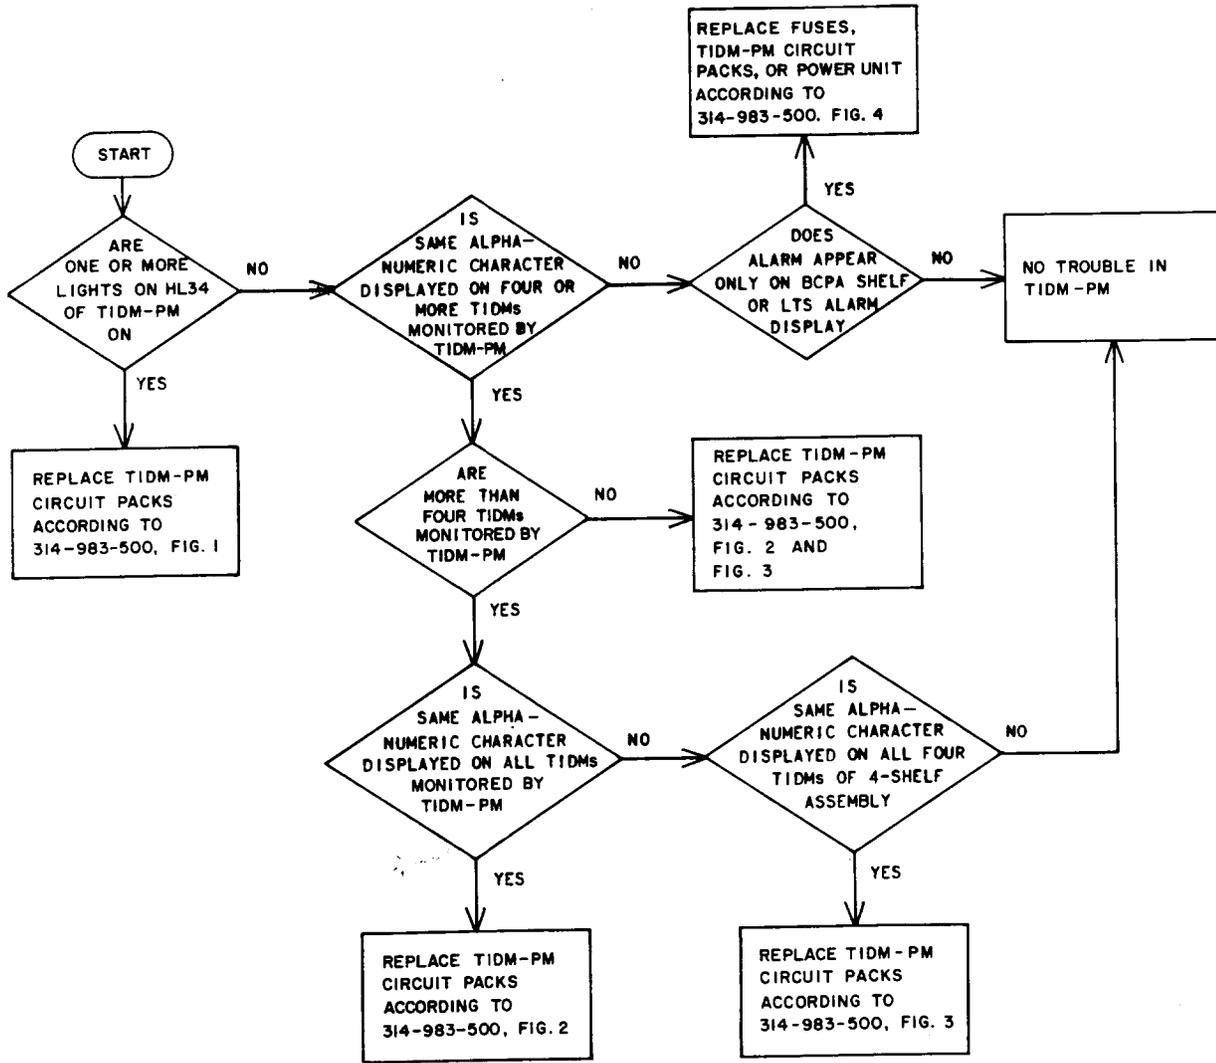

Fig. 2—TIDM-PM Troubleshooting Procedure
**2.04** If one or more lights on HL34 are on, if the same alphanumeric character is displayed on four or more T1DMs monitored by a T1DM-PM, if an alarm is present only on the BCPA shelf or LTS (MJ, MN, or FA lamp is lighted), or if the T1DM troubleshooting procedures do not clear a trouble condition, refer to Fig. 2.